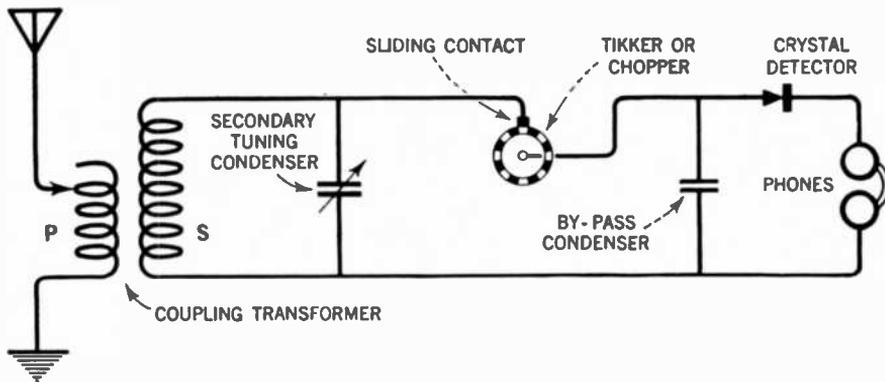

FIG. 62.—A crystal detector may be used with a tikker or chopper to receive c.w. signals.
*Answer.* A crystal may be used with a "tikker" or chopper as shown in Figure 62 to receive c.w. signals. The tikker or chopper is rotated by a small
motor connected to the brass disk. Connection to the chopper from the crystal is made by means of a spring contact on the side of the chopper disk, whereas a brush rests on the outer surface which is fitted with alternate strips of metal and highly insulated material as shown in the diagram. When the disk is rotated the circuit to the crystal detector and headphones is closed and opened at regular intervals, usually from 500 to 1000 times per second, thereby producing currents of audio-frequency. The "tikker" method of reception has long been obsolete and it is doubtful if spare parts for such an arrangement could be found on shipboard. An emergency method of receiving c.w. signals with a crystal would be to utilize the transmitter chopper. The leads from the transmitter should be removed from the chopper and the chopper in turn connected to a receiving circuit as shown in Figure 62.